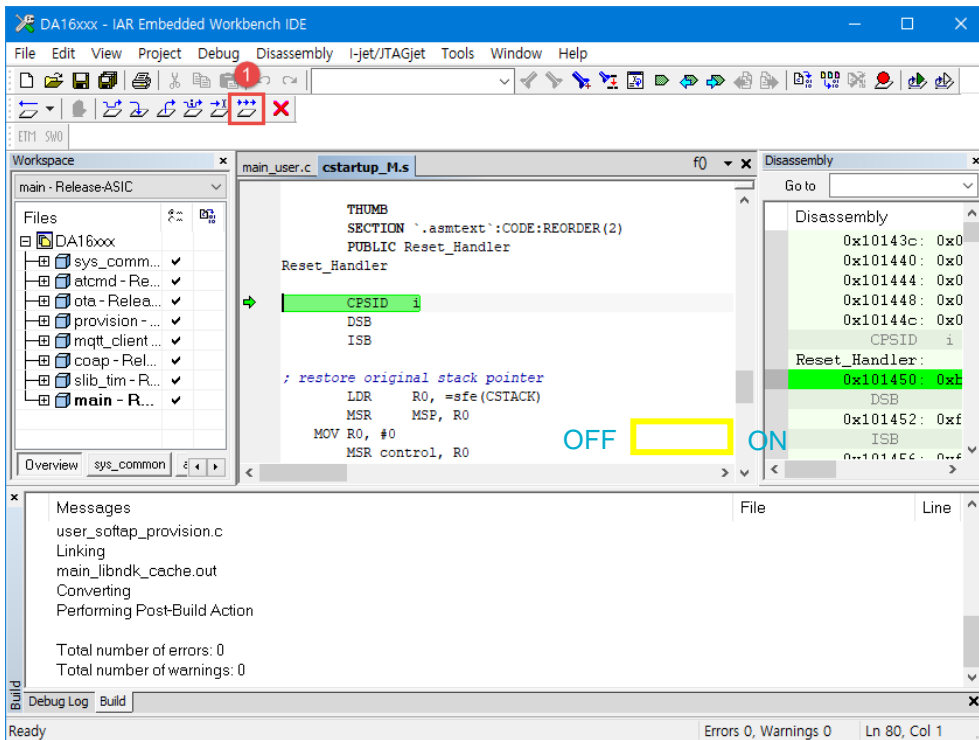

Figure 46: Download and Debug Windows
7. Click the **Go** button (1). See Figure 46.